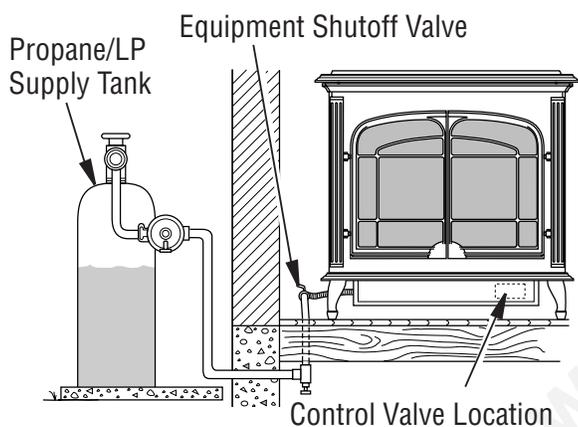

Figure 12 - Checking Gas Joints (Stove Model Shown)
3. Check all joints from gas meter for natural or propane/LP supply to equipment shutoff valve (see Figure 12 or 13, page 11). Apply a noncorrosive leak detection fluid to gas joints. Bubbles forming show a leak.
4. Check all joints from equipment shutoff valve to control valve (see Figure 12 or 13). Apply a noncorrosive leak detection fluid to gas joints. Bubbles forming show a leak.